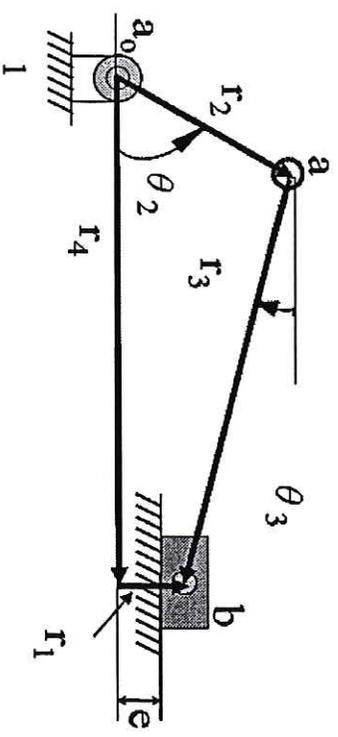

Figure 3 Offset crank-slider
8. Figure 3 show a offset crank-slider.